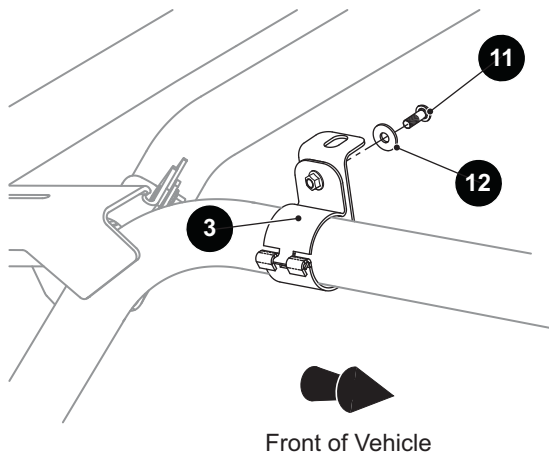

Fig. 3 Secure Canopy Clamp
2. Close the hinges around the ROPS tubes and secure with Torx bolts (11) and washers (12) (Ref. Fig. 3).